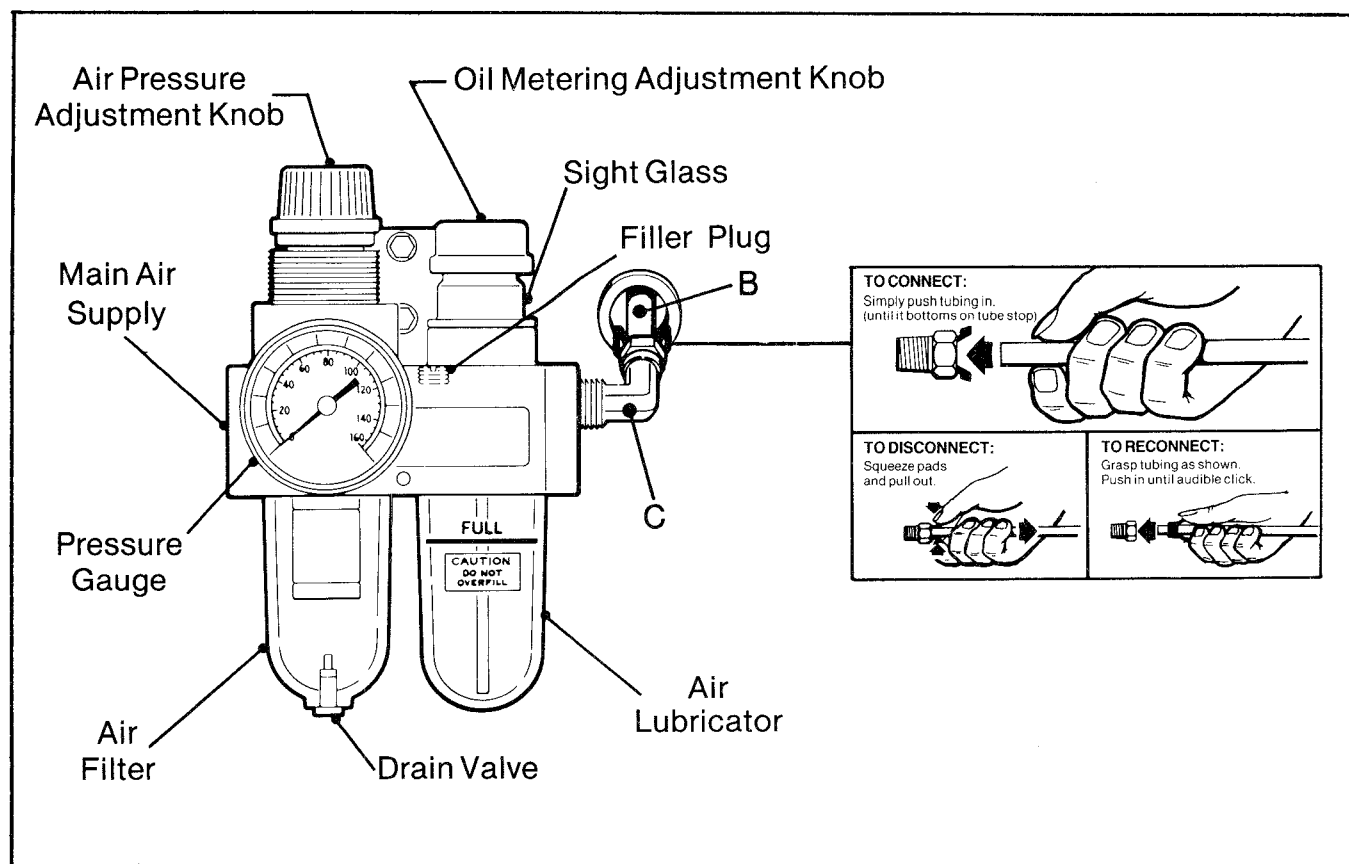

Figure 4B - Air Control Unit - Set-Up
- B. Refer to Figure 4B and push the air line (B) onto the male elbow (C) on the right side of the air lubricator as shown.
- E. Remove oil filler plug, shown in Figure 4B, and add oil to the lubricator reservoir, fill with oil to the full line indicated on the lubricator bowl.
- G. The lubricator oil metering adjustment knob, shown in Figure 4B, has been **preset open 1/4 turn**. If excessive oil becomes visible at the exhaust mufflers, **close** adjustment knob **clockwise 1/8 turn** or until one drop/60 cycles is visible in the sight-feed dome, shown in Figure 4B. If lubricator does not use oil, **open** adjustment knob **counterclockwise 1/8 turn** or until the drop rate of one drop/60 cycles is visible.
Air Line Filter - Refer to Figure 4B. The air filter supplied with the S-847 is equipped with an automatic drain. **No further maintenance is required.**
A. Air Line Lubricator - Refer to Figure 4B. **Maintain proper level** in lubricator.